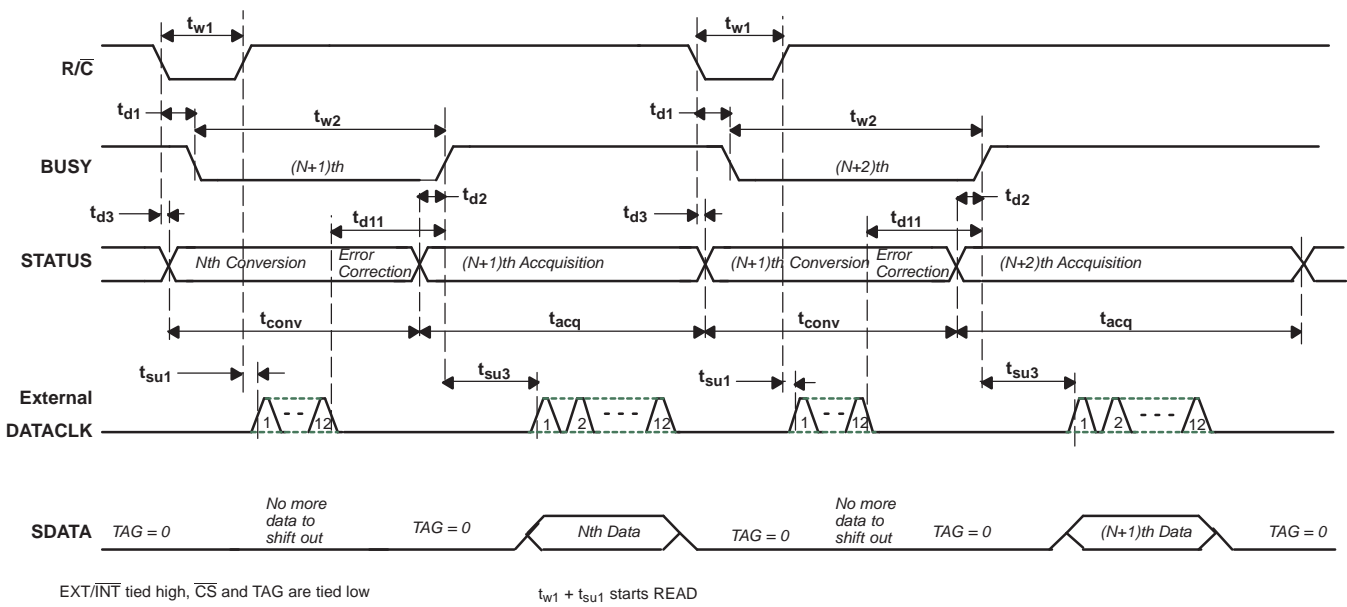
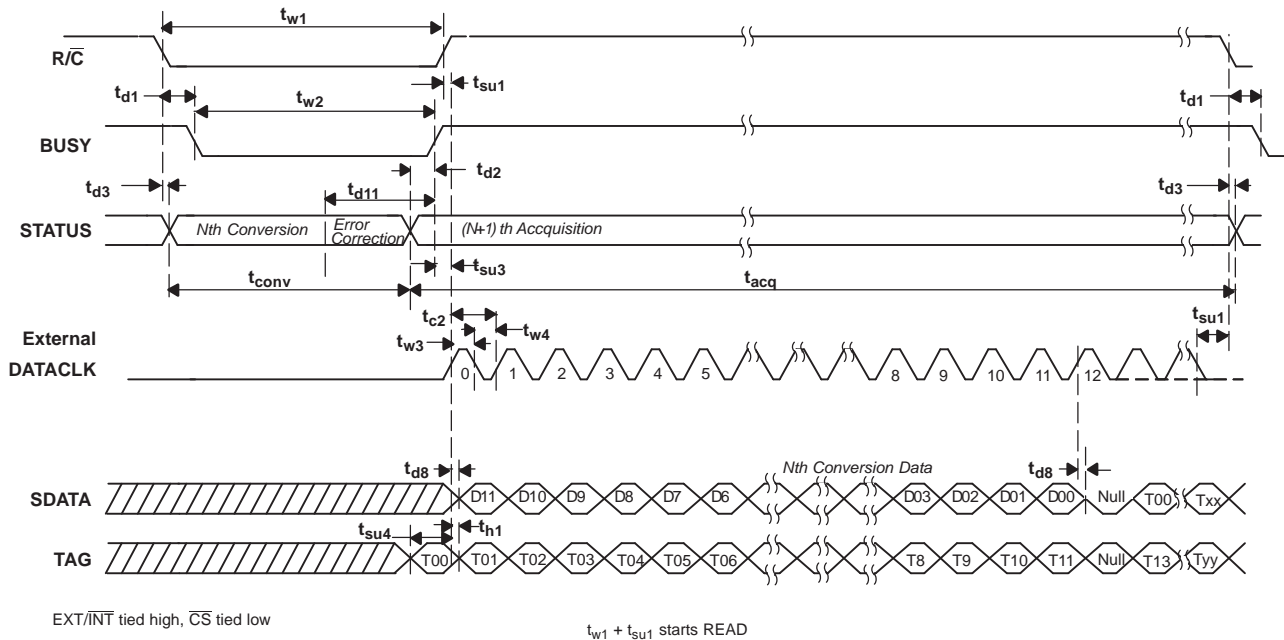
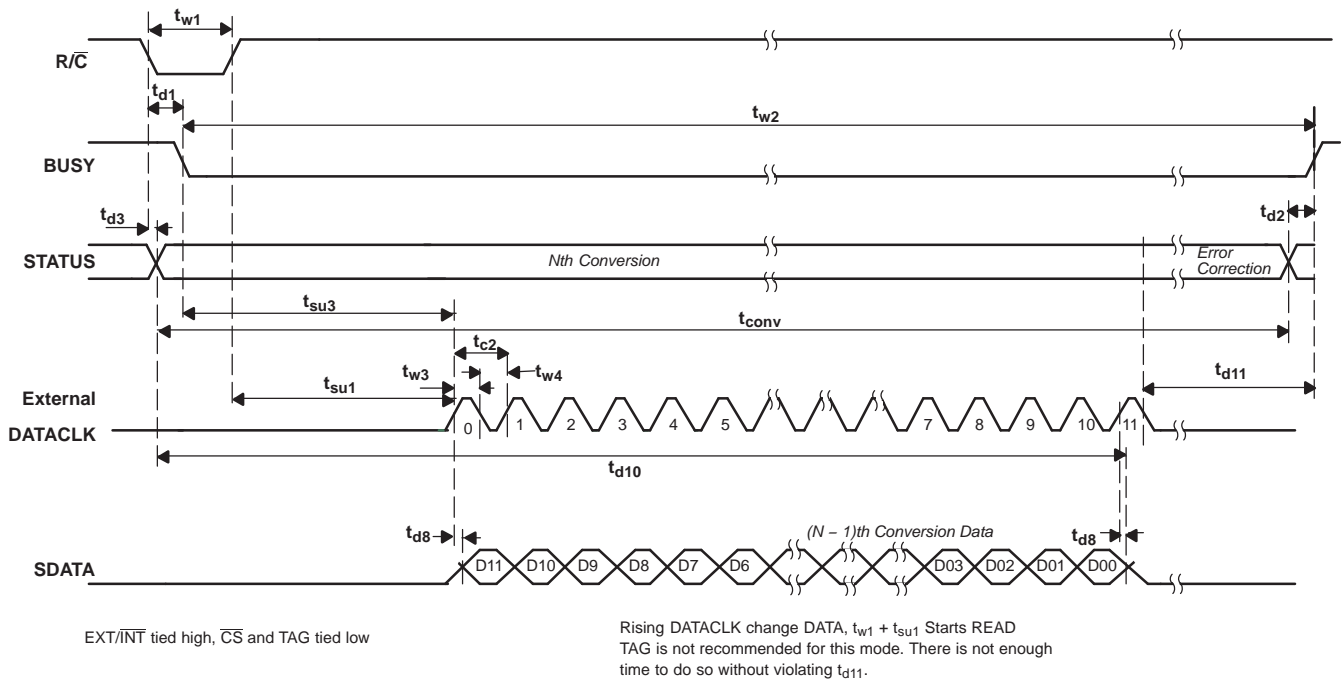

Figure 37. Basic Conversion Timing - External DATACLK
Figure 38. Read After Conversion (Discontinuous External DATACLK)
Figure 39. Read During Conversion (Discontinuous External DATACLK)
(1) See Figure 37, Figure 38, and Figure 39 for constraints on data valid from conversion *N*–1.
After conversion N is completed and the output registers have been updated, $\overline{\text{BUSY}}$ (pin 24) goes high. With $\overline{\text{CS}}$ low and $\text{R}/\overline{\text{C}}$ high, valid data from conversion N is output on SDATA (pin 19) synchronized to the external data clock input on DATACLK (pin 18). The MSB is valid on the first falling edge and the second rising edge of the external data clock. The LSB is valid on the 12th falling edge and 13th rising edge of the data clock. TAG (pin 20) inputs a bit of data for every external clock pulse. The first bit input on TAG is valid on SDATA on the 13th falling edge and the 14th rising edge of DATACLK ; the second input bit is valid on the 14th falling edge and the 15th rising edge, etc. With a continuous data clock, TAG data is output on SDATA until the internal output registers are updated with the results from the next conversion. Refer to Table 6 and Figure 38.
After conversion N has been initiated, valid data from conversion $N-1$ can be read and is valid up to 12 μs after the start of conversion N . Do not attempt to clock out data from 12 μs after the start of conversion N until BUSY (pin 24) rises; this results in data loss. NOTE: For the best possible performance when using an external data clock, data should not be clocked out during a conversion. The switching noise of the asynchronous data clock can cause digital feedthrough degrading the converter's performance. Refer to Table 6 and Figure 39.